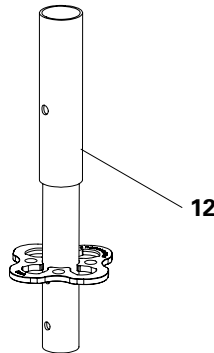

Fig. A2.02
1. Fit the base standards (**12**) onto the already positioned spindles (**2**). (Fig. A2.02)